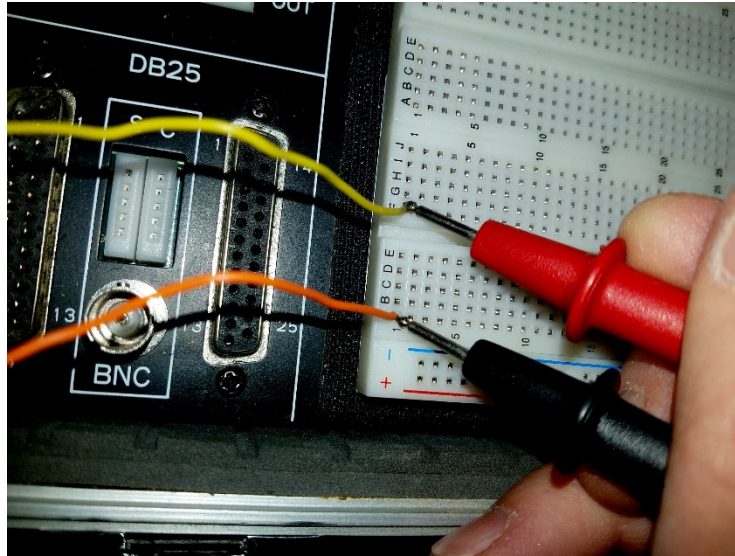

Figure 3
1.1. The logic trainer should be off for this part of the experiment. Using your DMM determine the internal connections on the first 13 rows of the breadboard. The DMM test probes will not fit into the breadboard socket holes so a wire should be inserted in the socket holes to make a measurement. Press the test probe up against the bare wire. Pinch the bare wire between the test probe point and the breadboard socket. See Figure 3.